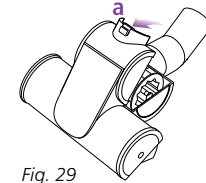

Fig. 29
- 1 Slide the locking latch (a) forward and gently tilt brush housing upward to open. (Fig. 29)